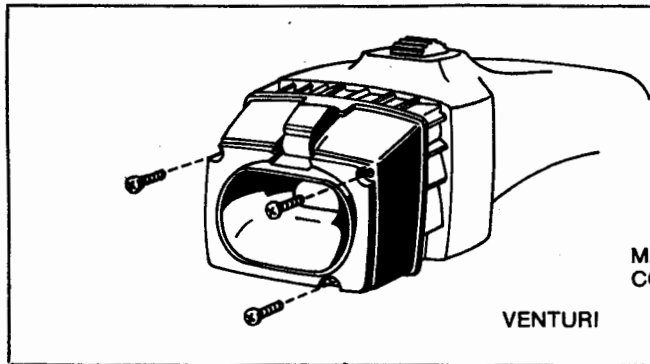

Fig. 12
2. Remove the three screws from the front of the venturi as shown in figure 12.
5. Push the excess wire back into the hole in the Dustbuster handle and position the new venturi as shown in figure 12.